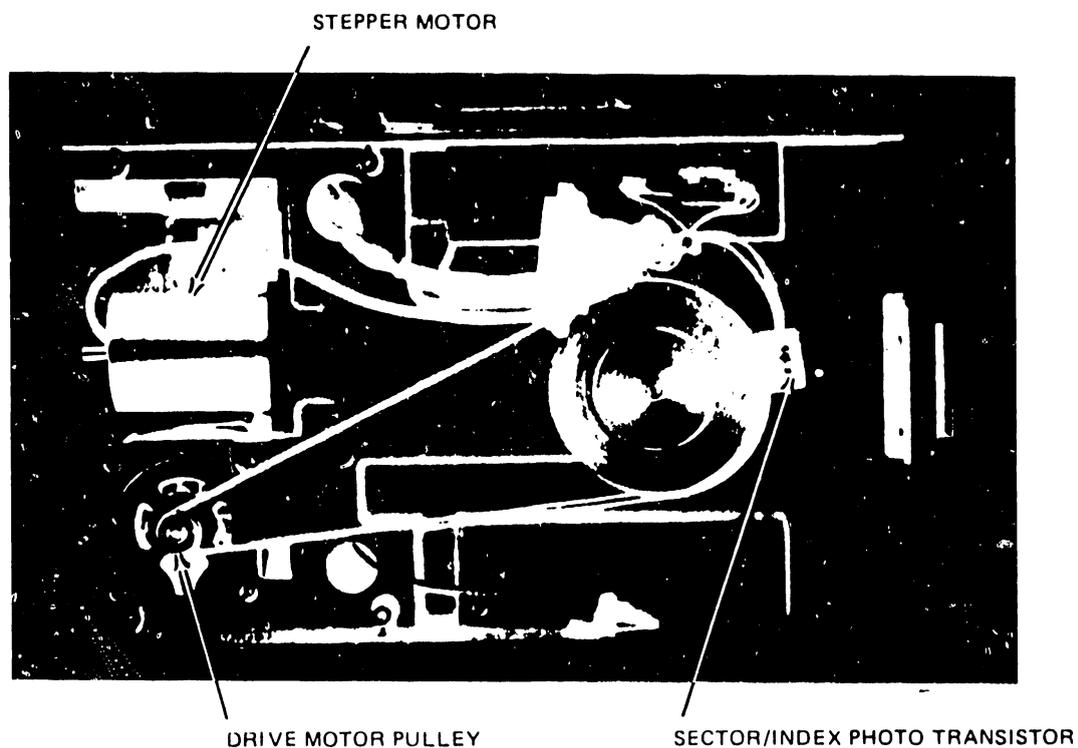

Figure 5 Sector PhotoTransistor
- c. Adjust the potentiometer on the Index/Sector phototransistor to obtain a pulse of 1.7 msec.  $\pm$  .5 msec. duration (Figure 5).